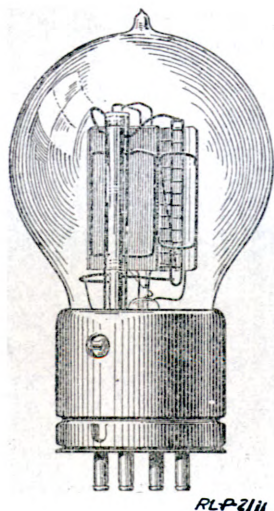
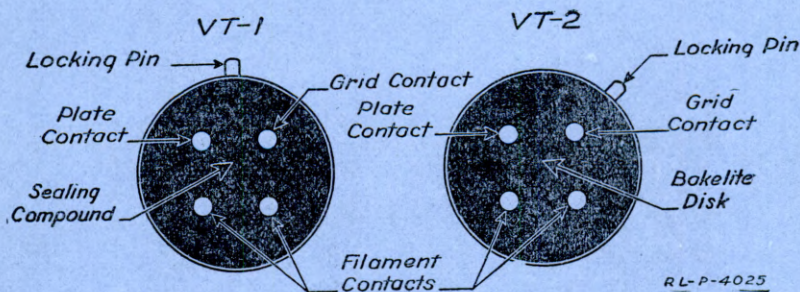

Fig. 69.—The type VT-2 vacuum tube.
Fig. 72.—Relative positions of locking pins on type VT-1 and VT-2 vacuum tube bases.
The SCR-79-A is a vacuum tube set (see Fig. 68) designed for transmitting undamped wave signals and for receiving either damped or undamped signals. The wave length range of the set, for both transmitting and receiving, is from 500 to 1,100 meters. Two VT-2 vacuum tubes (see Fig. 69) are used in the transmitter and three VT-1 tubes are used in the receiver. Two sets of this type can communicate over a distance of about 30 miles.
2. Look at the VT-2 vacuum tube (See Fig. 69) and note how it is constructed. The filament, grid, and plate are somewhat similar to the elements of the VT-1. Notice, however, that they are spaced differently. The wide spacing of the plate in the VT-2 is necessary on account of the high voltage used. Compare the base of the VT-2 with the base of the VT-1. (See Fig. 72.)